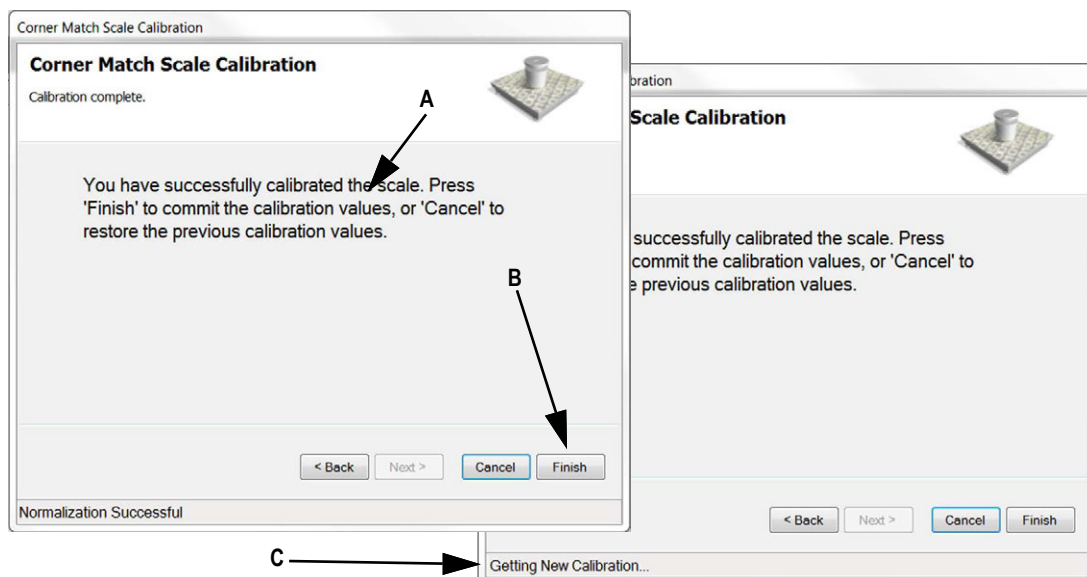

Figure 4-14. Finish Calibration
11. The message stating successful calibrated of the scale appears (Figure 4-14 A).
12. Press **Finish** (Figure 4-14 B).
A message appears in the bottom of the frame **Getting New Calibration** (Figure 4-14 C). When done the pop up box will disappear and calibration is complete.